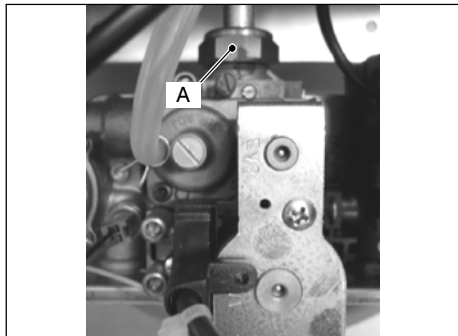
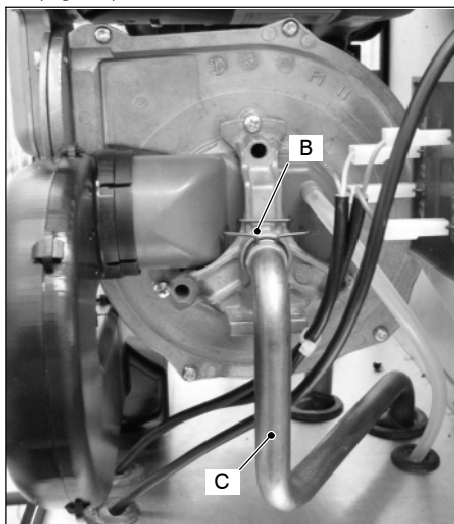

Fig. 8.2
Fig. 8.3
- 4 Unscrew the connector A (Fig. 8.2), remove the fixing fork B and remove the pipe C (Fig. 8.3).